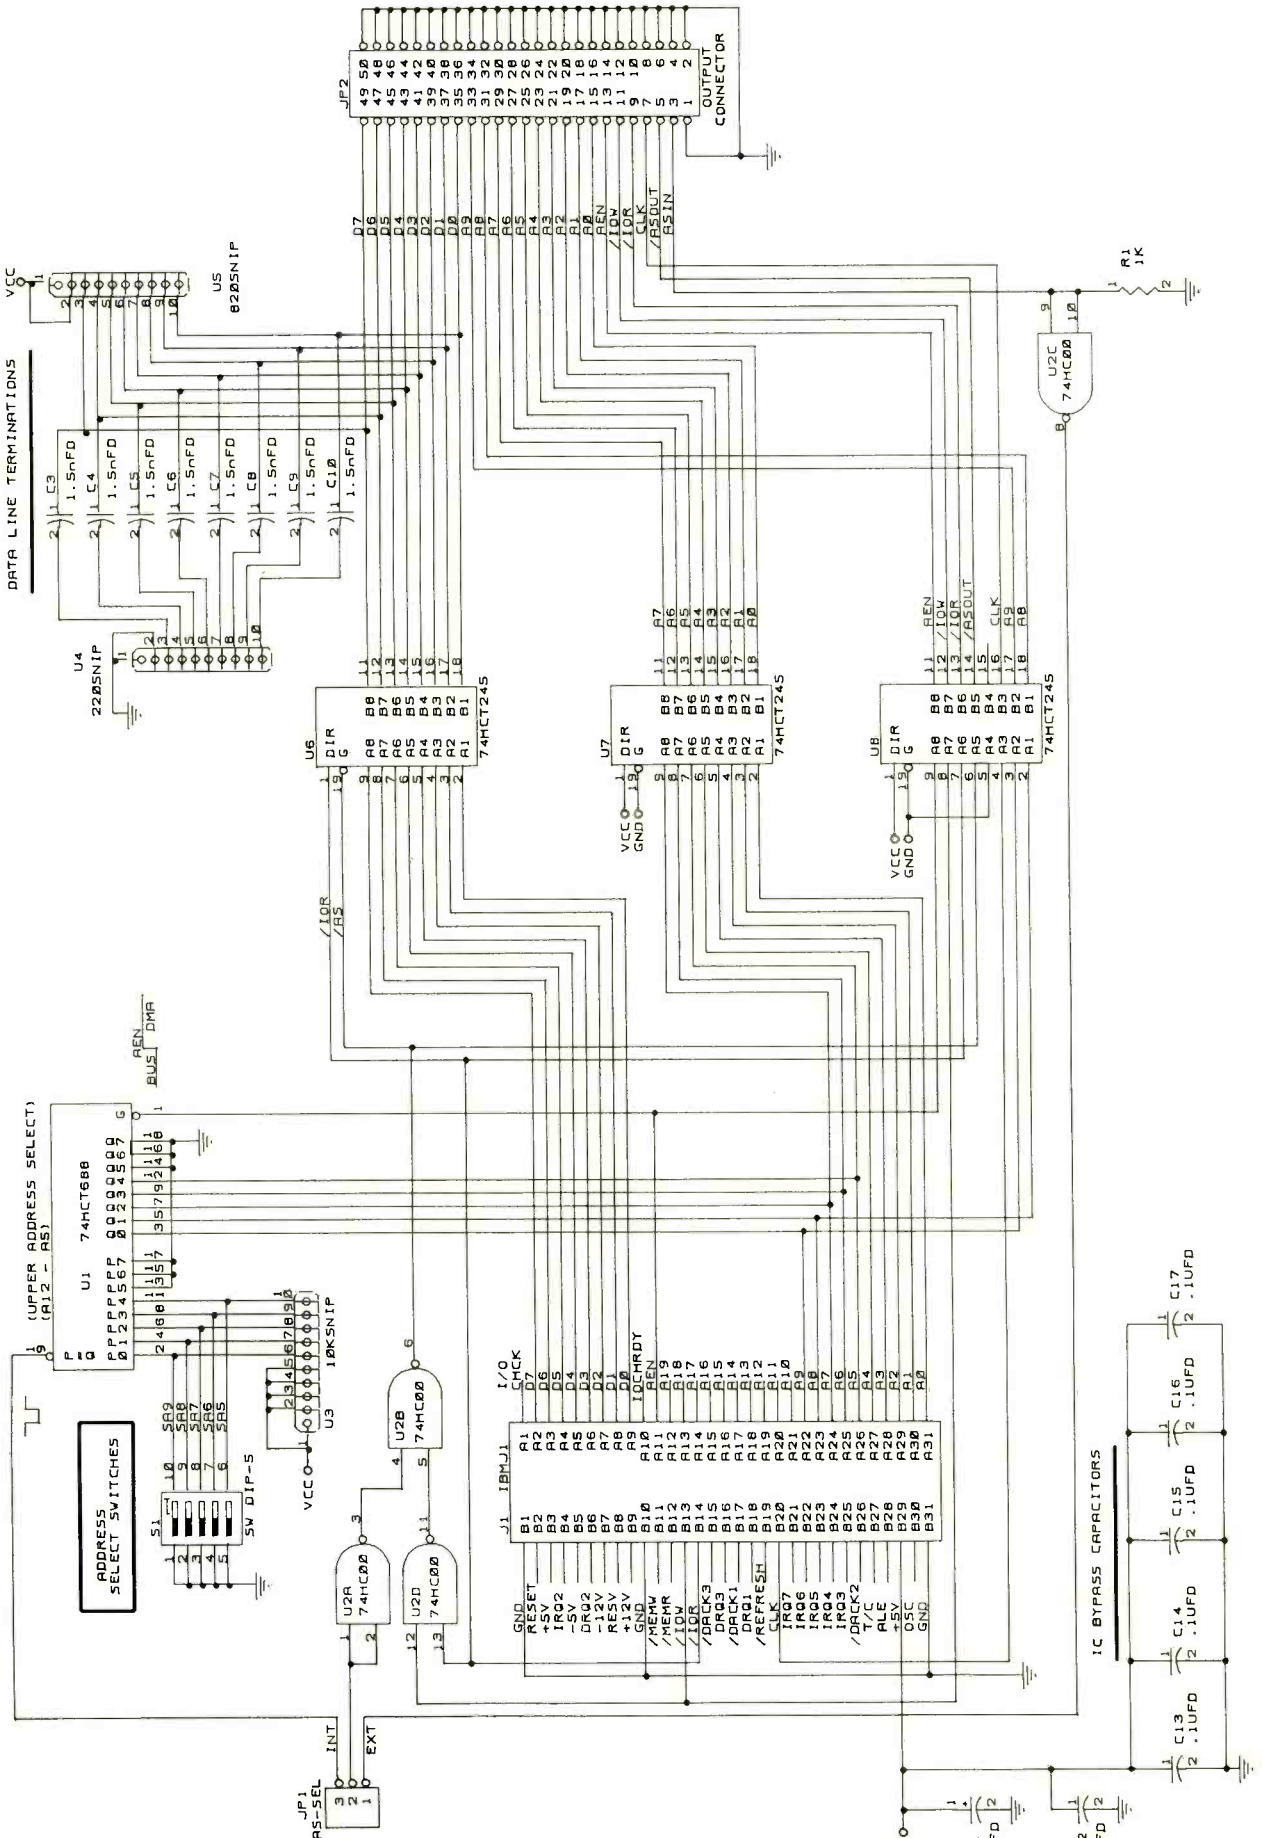
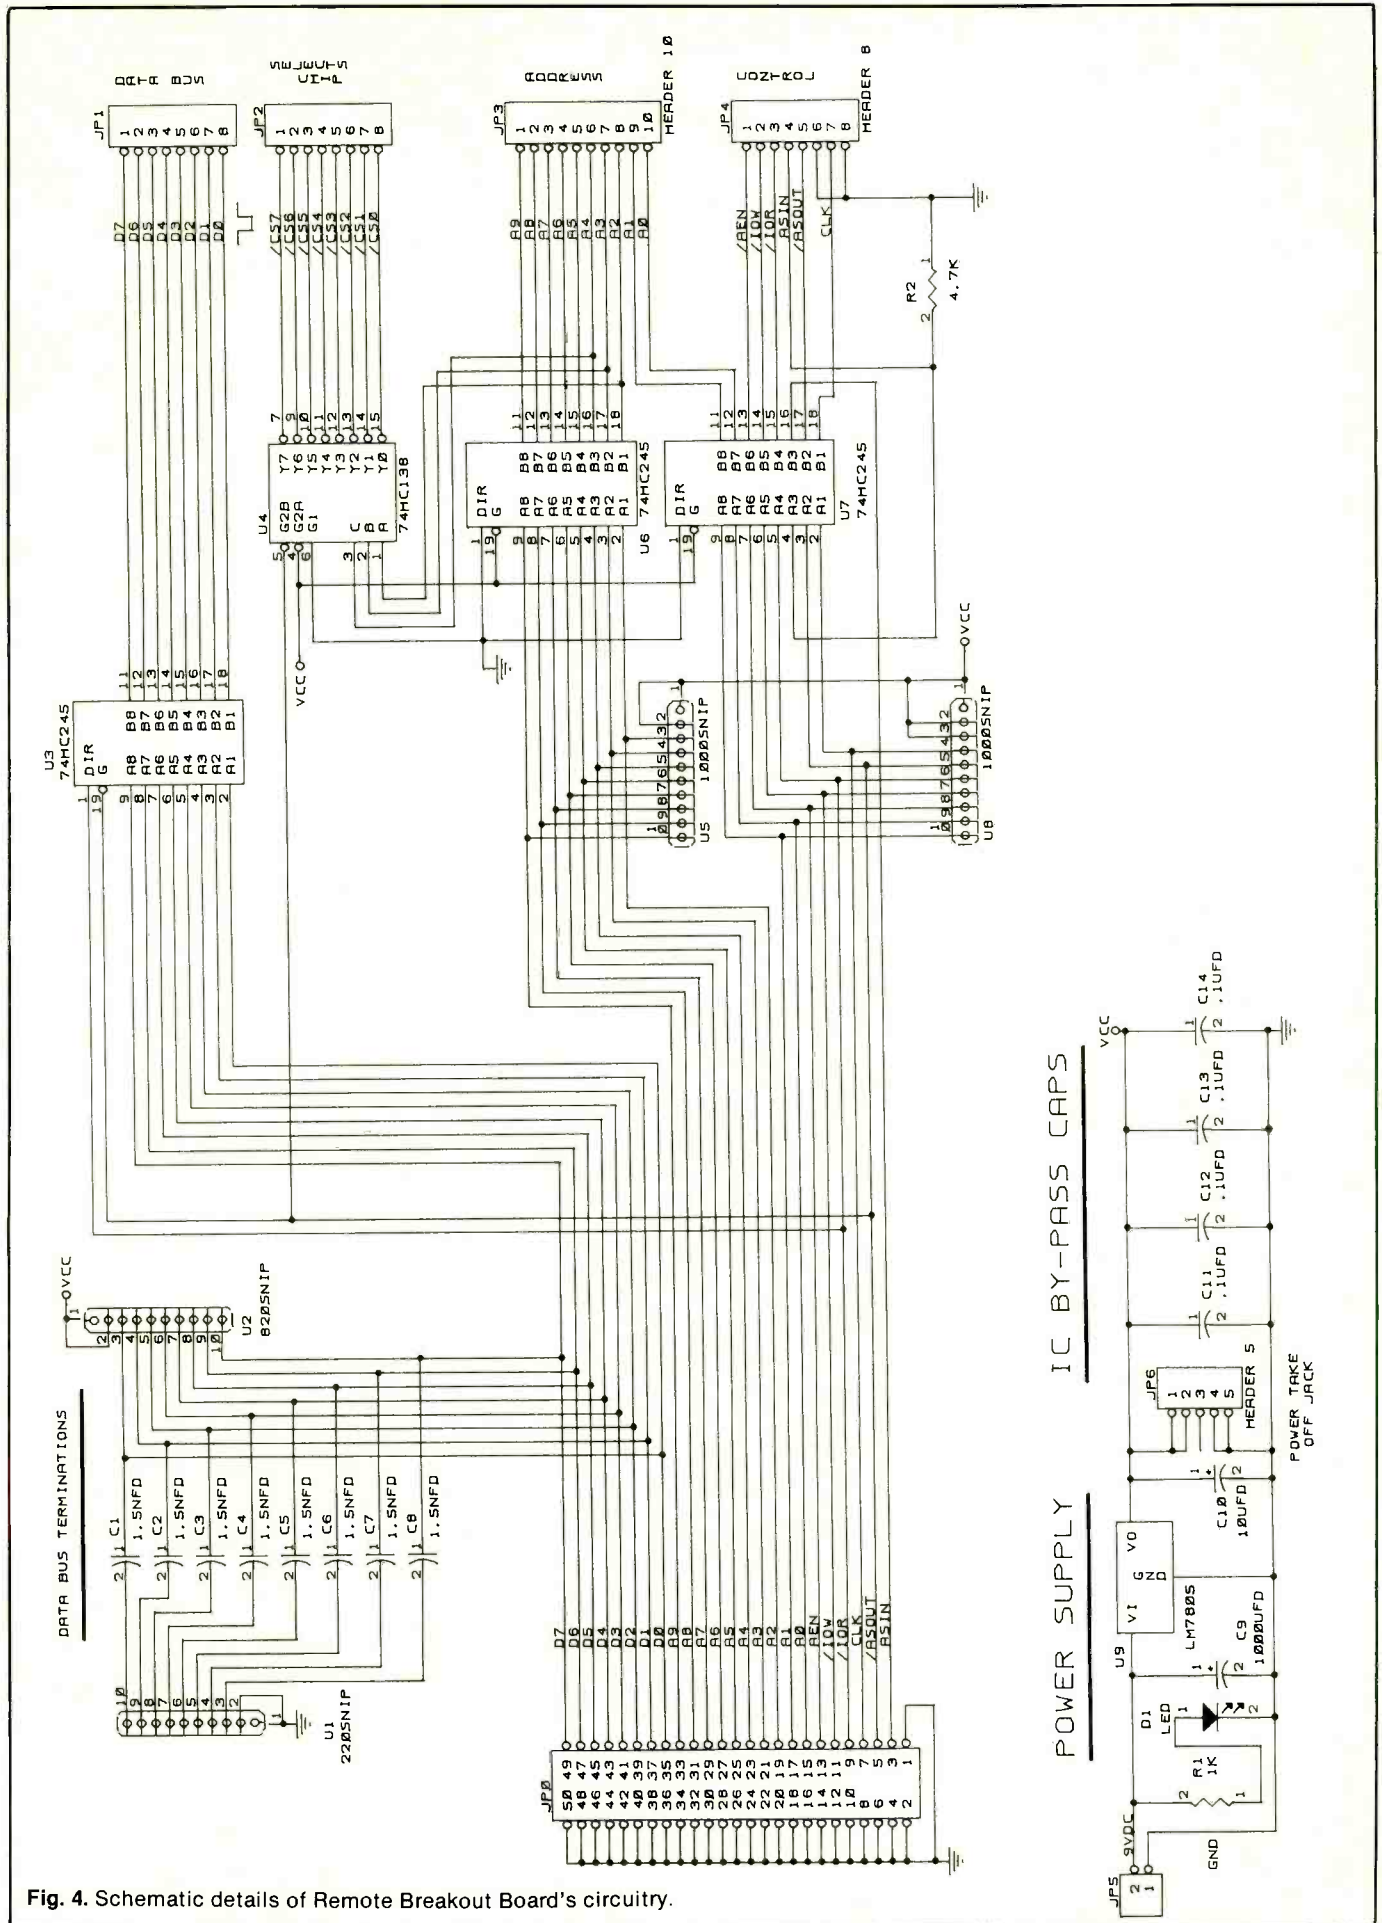

Fig. 3. Schematic details of plug-in Interface Board's circuitry.
Fig. 4. Schematic details of Remote Breakout Board's circuitry.
In the schematic diagram of the Interface Board circuitry shown in Fig. 3, U1, S1, U2A, U2B and U2D make up the address-decoding logic for the Interface-Board. Eight-bit comparator U1 produces an output when P0 through P7 equal Q0 through Q7 and gate control input G is low (logic 0).
Note in Fig. 4, the schematic diagram for the Remote Breakout Board's circuitry, the same data-bus termination network at the input to second data bus buffer U3. Also, U5 and U8 are resistor terminations to V_{cc} for the address and control lines coming onto the board.
In Fig. 4, 74HCT138 3-to-8-line Decoder *U4* requires a bit of explanation. Before plunging in, however, look at
data bus buffer *U3*. DIR input pin 1 of *U3* is driven by the /IOR signal, and gate (G) input pin 19 is driven by the /ASO signal, just like *U6* in Fig. 3. The control lines of these two chips are connected in parallel. Chips *U6* and *U7* in Fig. 4 are used as mono-
The Remote Breakout Board circuitry in Fig. 4 has a partial power supply made up of *C9*, *C10* and *U9*. Power can come from a 9-volt, 500-mA dc wall plug adapter, bench-type unregulated or regulated dc supply set to approximately 9 volts dc. Light-emitting diode *D1* provides power-on indication. Power take-off jack *JP6* provides access to the regulated +5-volt supply on the board.